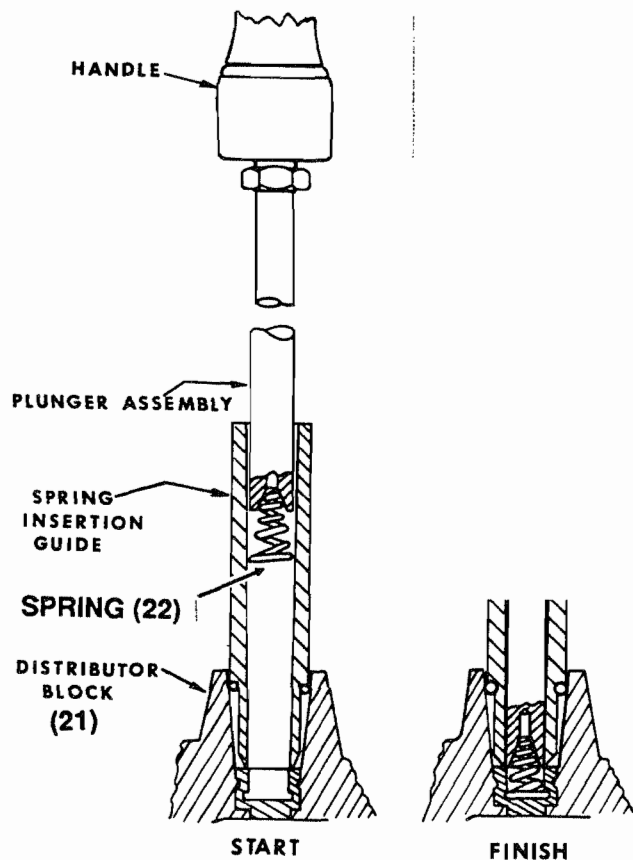

Figure 908. Installing Contact Springs
If new contact springs (22) are to be installed in distributor block (21), use the 11-8627 Spring Seating Kit. Insert the Spring Insertion Guide of the 11-8627 Kit in cable outlet hole of distributor block as shown in Figure 908. Place contact spring (22) (large end first) in top of the Spring Insertion Guide and position the Handle attached over small end of spring. With a firm counterclockwise pushing motion, seat spring in recess of distributor block. Spring is properly installed when bottom turn is caught in groove of block and top turn is approximately centered in outlet. Check height of springs per Figure 704. Replace springs as required.